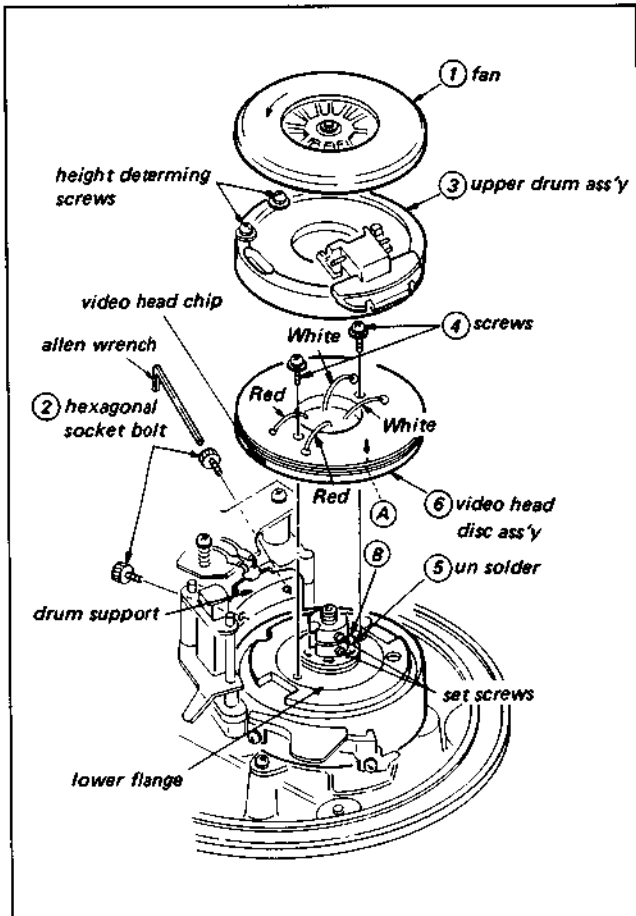
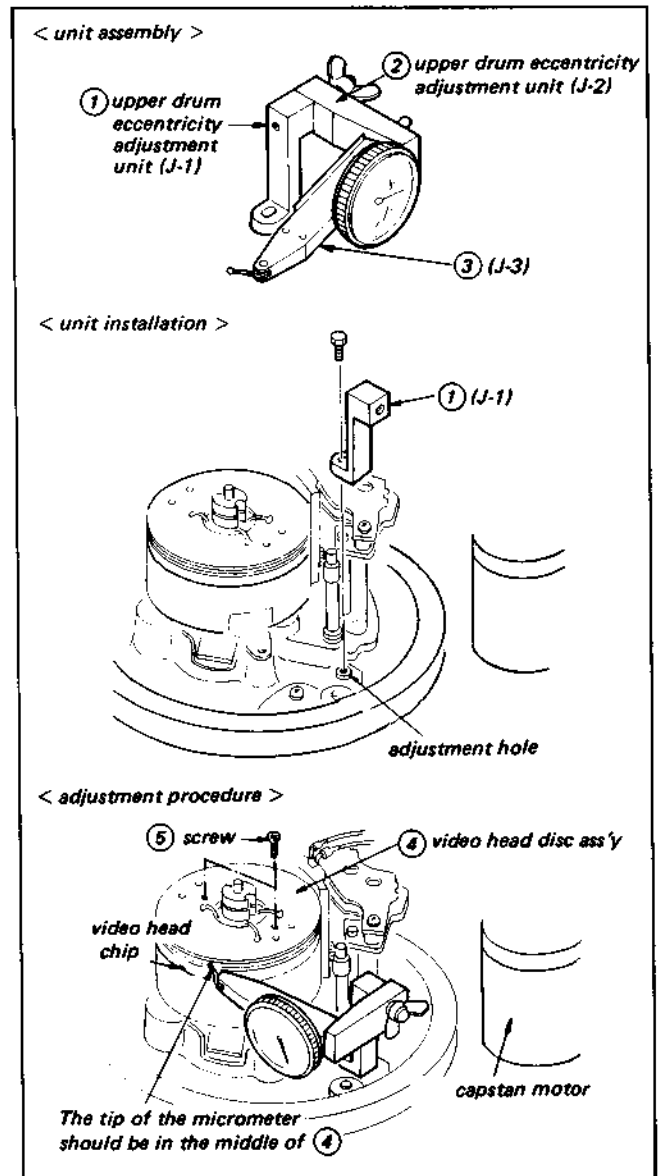

Fig. 3-1. Replacement of video head disc assembly
Fig. 3-2. Video head disc assembly eccentricity adjustment
- 1) Remove the video head disc assembly following steps 1-6, shown in Fig. 3-1.
**Note:** • To remove fan ①, press ⑥ down and move in the direction of the arrow.
- Prior to installing the video head disc assembly ⑥, clean surfaces A and B with a piece of cloth saturated with methanol or isopropyl alcohol.
- (i) Combine adjusting jig parts ①, ② and ③ as shown in Fig. 3-2. Set the eccentricity gauge assembly on the machine by mounting it in the adjustment hole, as shown.
- (ii) Turn the shaft of the drum counterclockwise slowly with the fingers and adjust the video head disc position so that the variation in the reading of the drum eccentricity adjusting gauge is within  $5\ \mu\text{m}$  during each turn of the drum, by very gently tapping a screwdriver wrapped in cloth against the outer circumference of the video head disc assembly ④.
- (iii) Tighten the screws ⑤ that secure the video head disc assembly ④ alternately and gradually after the eccentricity adjustment is completed. (tightening torque; more than 10 kg./cm.)
- (v) Solder the four leads of the head and remount the upper drum assembly while pressing down the upper drum height determining screws. (See Fig. 3-1)